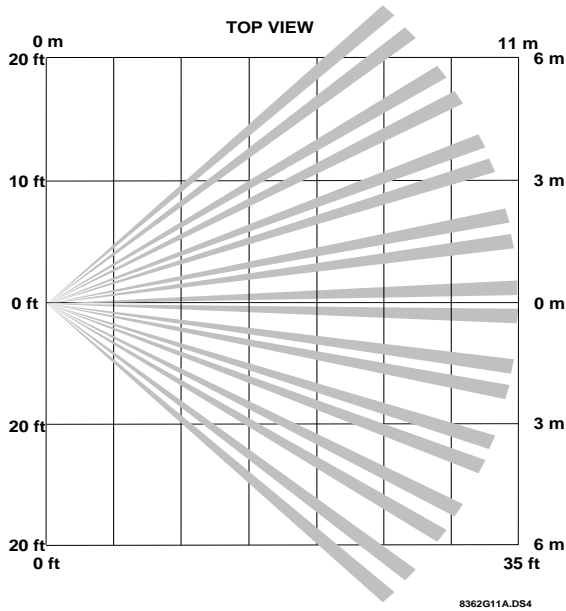

Figure 2. This graph shows the top view of the lens coverage area, for the indoor motion sensor's lens.
11. The pet must not be allowed to climb on objects such as furniture, boxes, etc. within the field of coverage. See Figures 2 and 3 to determine the sensor's field of coverage.